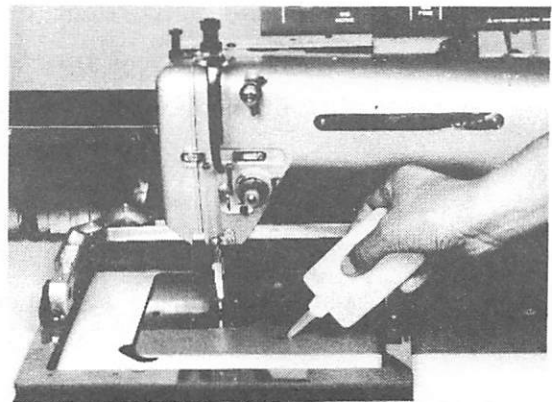

Fig. 9.12
- (3) If oil is not sufficient, pour suitable quantity of oil through the threaded hole for oil gauge (Fig. 9.12).